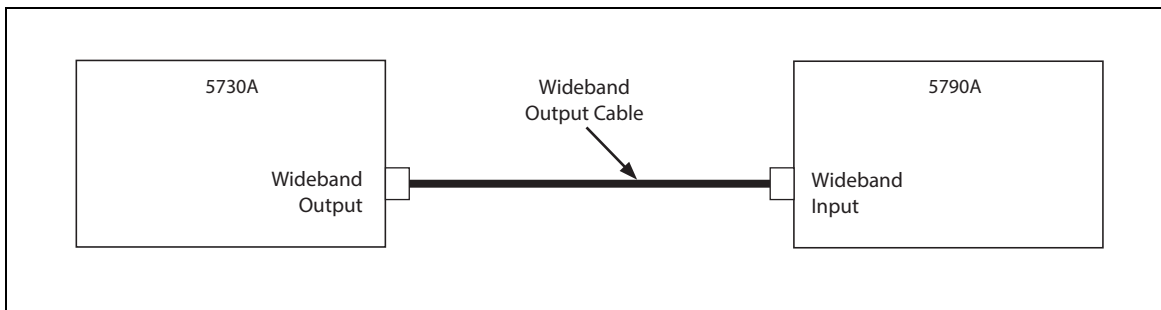

Figure 19. Wideband Flatness Test Setup
1. Connect the equipment as shown in Figure 19. Note that the Calibrator wideband cable is connected to the 5790A directly, the termination is not used.